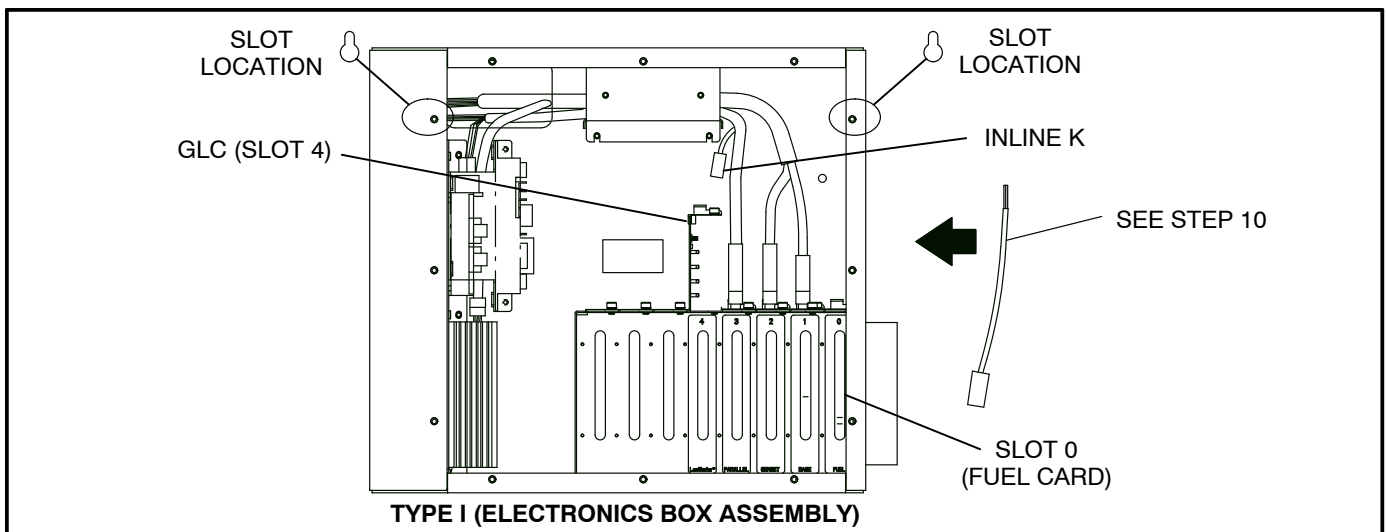
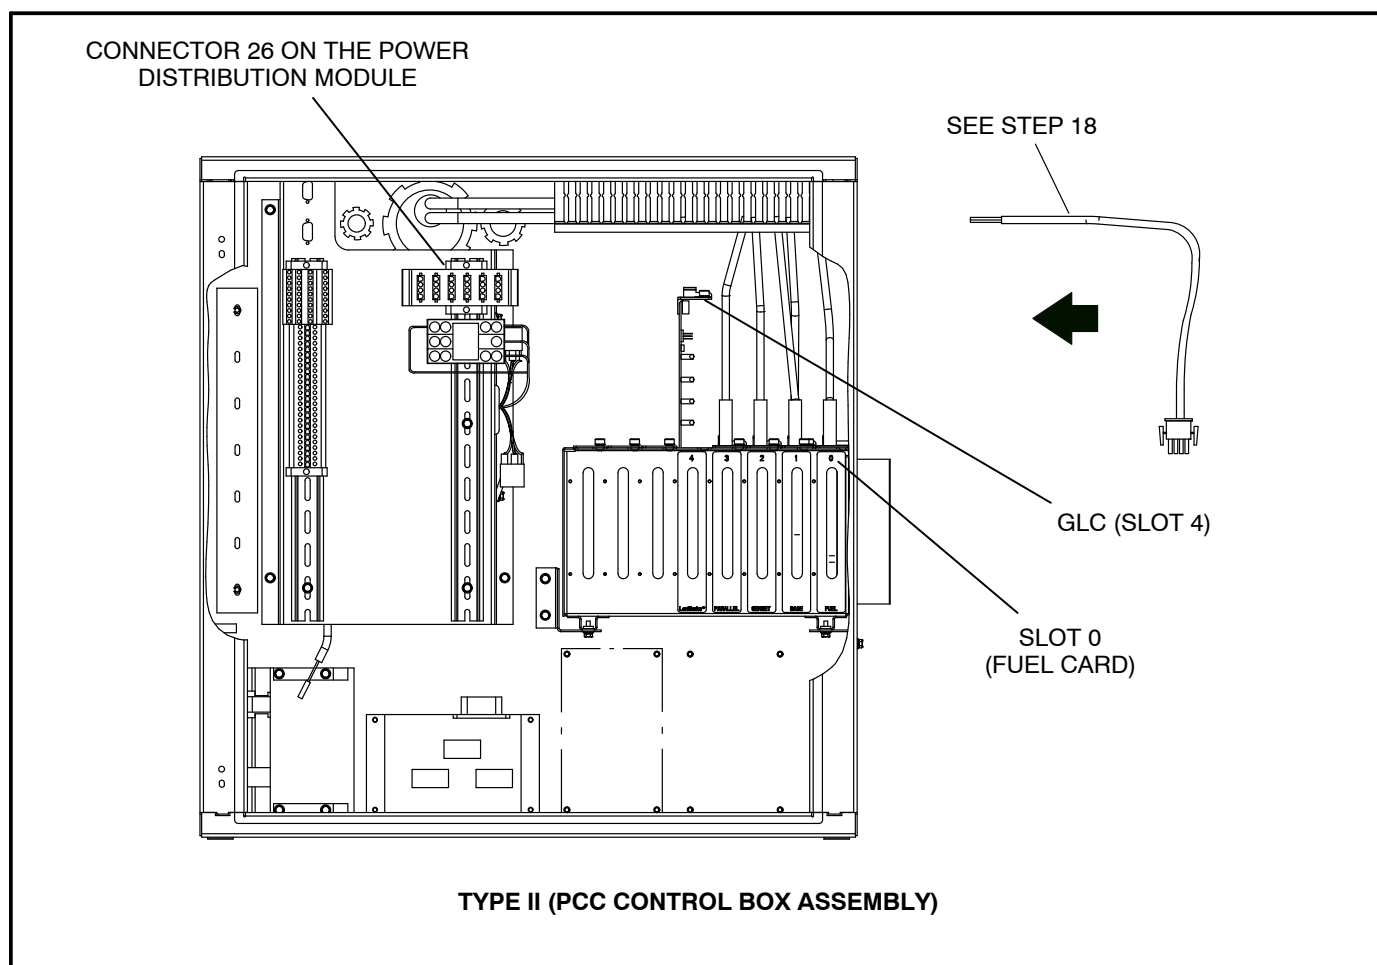
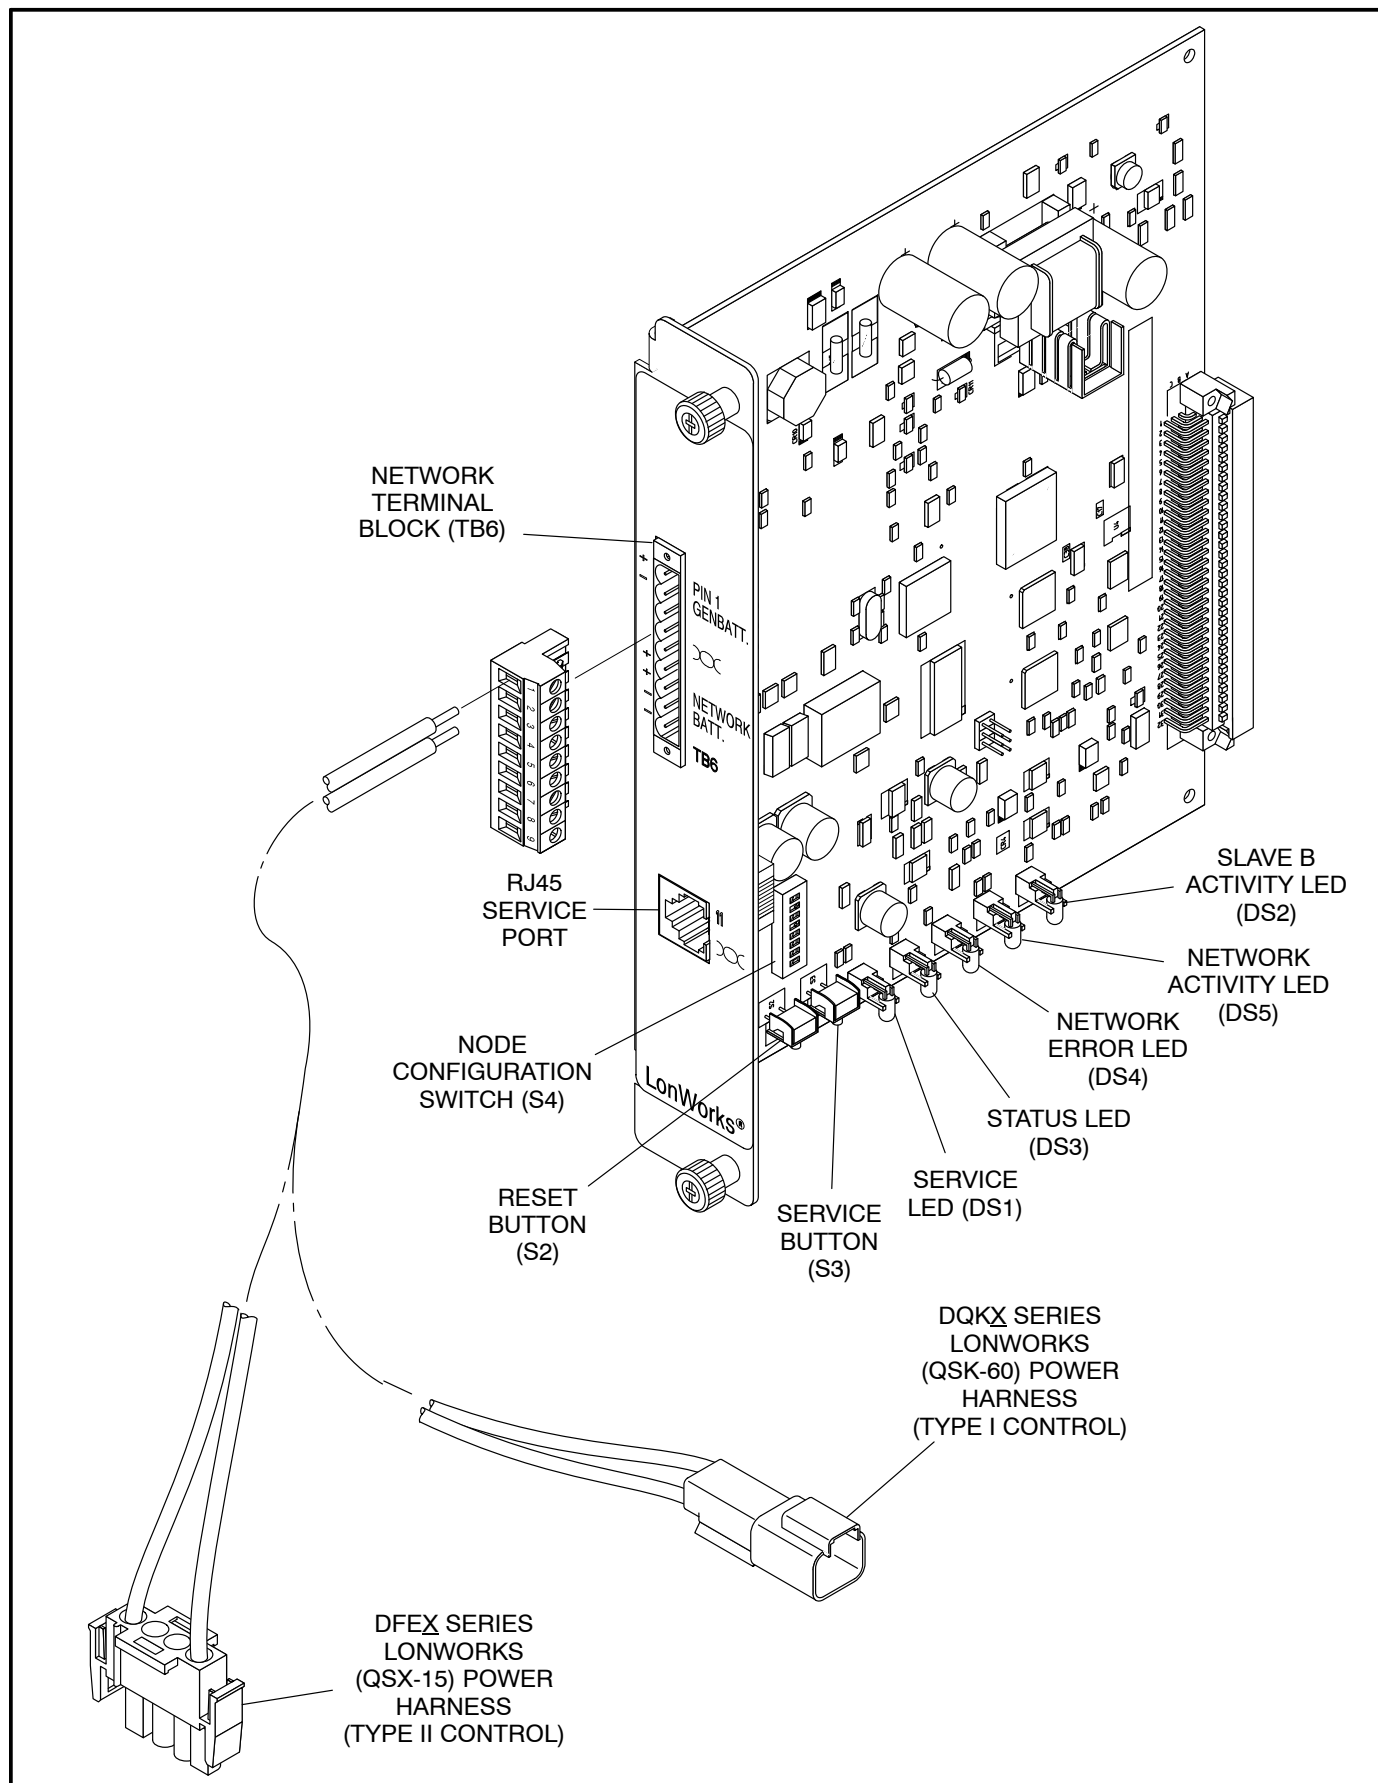

FIGURE 9-3. GLC INSTALLATION – TYPE I CONTROL
FIGURE 9-4. GLC INSTALLATION – TYPE II CONTROL
FIGURE 9-5. LED LOCATIONS
There are two versions of the PCC 3200 control (Type I and Type II). Each version (see Figure 9-3) has a unique power harness.
4. Locate the electronics box assembly (Figure 9-3). For a set-mounted control, it is attached to the drive end of the generator control housing. For a free-standing control, it is located inside the free-standing enclosure.
8. Locate slot 4 on the card cage assembly (Figure 9-3). Loosen the two fasteners holding the blank plate and remove plate.
10. Install the DC power harness between **TB6** of the GLC and **Inline K**, as shown in Figure 9-3 and Figure 9-5.
16. Locate slot 4 on the card cage assembly (Figure 9-4). Loosen the two fasteners holding the blank plate and remove plate.
18. Route the DC power harness through the overhead cable tray. Connect the DC power harness between **TB6** of the GLC and **Connector 26** of the power distribution module, as shown in Figure 9-4 and Figure 9-5.
4. **Be sure to assign each node in the network a unique address.** The *Node Address* can be verified by counting the number of pulses of the “STATUS” LED (see Figure 9-5). The default node address is 0001, which is a “STATUS” pulse rate of 1.
After the device has been logically installed, the *Node Address* can be verified by counting the number of pulses of the “STATUS” LED. See Figure 9-5.
4. Press and hold the *Service* button (S3) (see Figure 9-5) for approximately two seconds until the *Network Status* LED (DS3) begins flashing.
To verify the genset has installed itself properly and is bound to the ATS, disconnect the data cable at J14. The “NETWORK ERROR” LED (DS4) (see Figure 9-5) should turn on (red) within 10 seconds. This indicates communications have failed and that the device was properly bound.